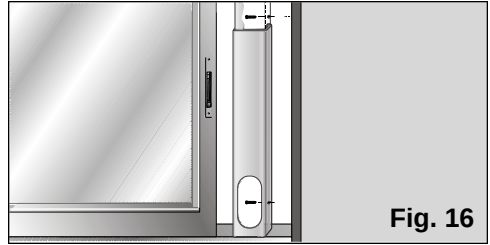

Fig. 16
- The accessory has two holes on the side to fit it to the window / balcony with. The user can secure it to the frame or wall with two screws (not included with the accessory) to prevent it from moving or falling out of place, **Fig. 16**.